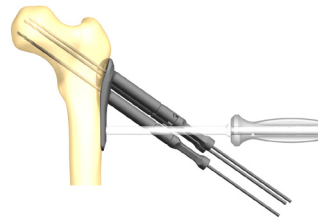
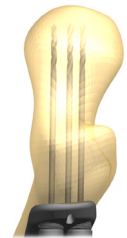

Figure 7a
Figure 7b
6. Insert the superior 2.8mm Guide Pins and verify placement with a C-Arm. Ensure all three 2.8mm Guide Pins are parallel in the AP (Figure 7a) and lateral (Figure 7b) planes.